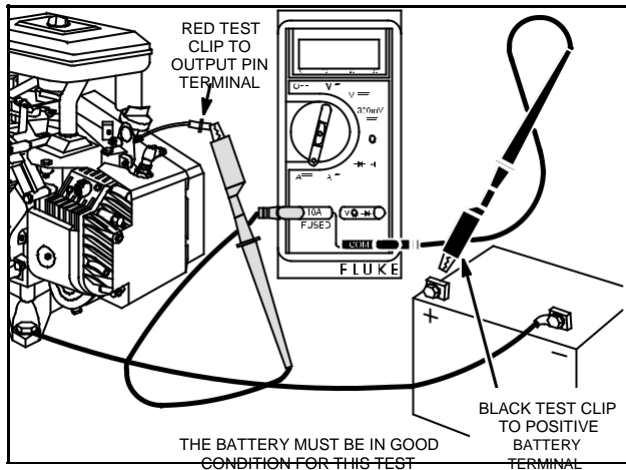

Fig. 14 – Testing DC Output
4. Attach RED test lead clip to DC output terminal, Fig. 14.